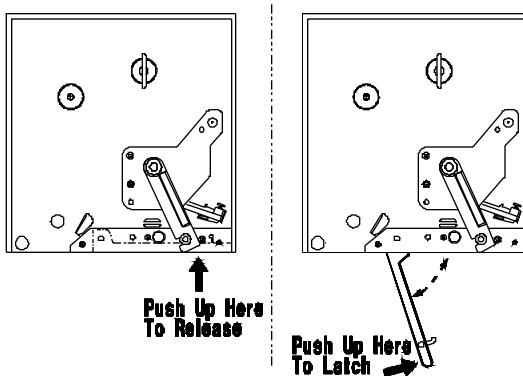

Figure 3-3 Opening and Closing the Drive Plate
- 2 Push 'up' on the hinged Drive Plate at the point shown in Figure 3-3. This will release the plate, allowing it to swing down.
- ⑤ To close, raise the Drive Plate back up, until the plate snaps into place. See Figure 3.3.
- ⑥ Lower the Head-Lift Lever until the printhead is locked in the down position.